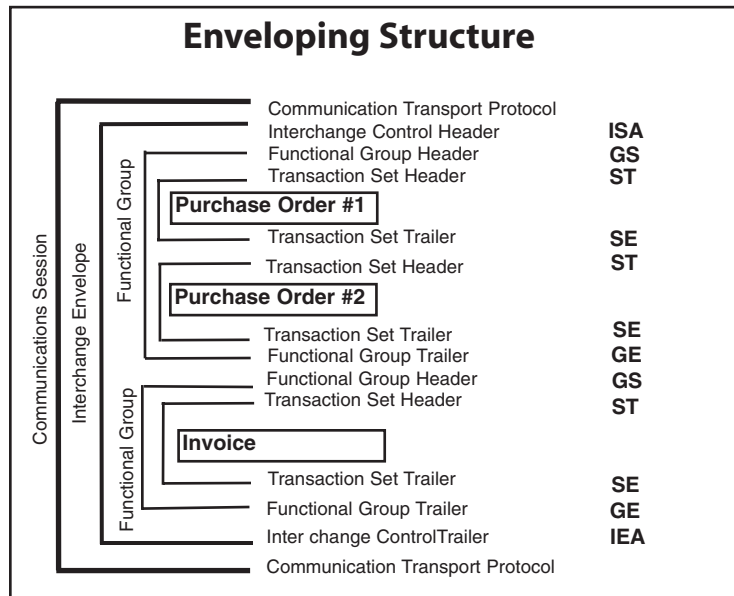

Figure 2: Structure of an ANSI Transmission
As noted above, there are many different EDI standards that may be used. Figure 2 shows how an ANSI EDI transmission is formatted. This information is intended only to demonstrate how the document is structured. Interchange Control Header (ISA) and Functional Group Header (GS) data, provided by the trading partner, will assist the user in properly configuring the translator to recognize the trading partner and its transaction sets.